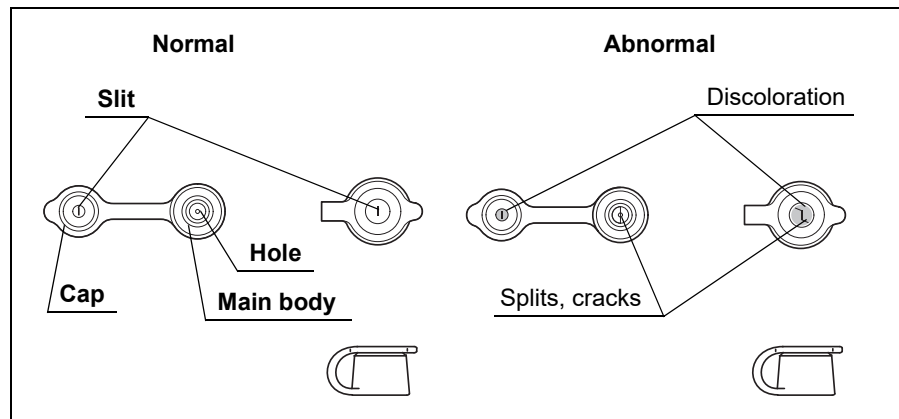

Figure 3.11
1. Confirm that the slit and hole on the biopsy valve have no splits, cracks, deformations, discoloration, or other damage (see Figure 3.11).